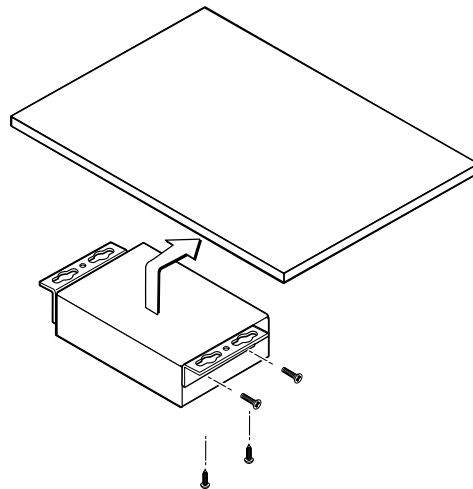

Figure 4. Under-Desk Mounting
2. Secure the under-desk mounting brackets to the transmitter or receiver with the four machine screws provided in the mounting kit (figure 4).